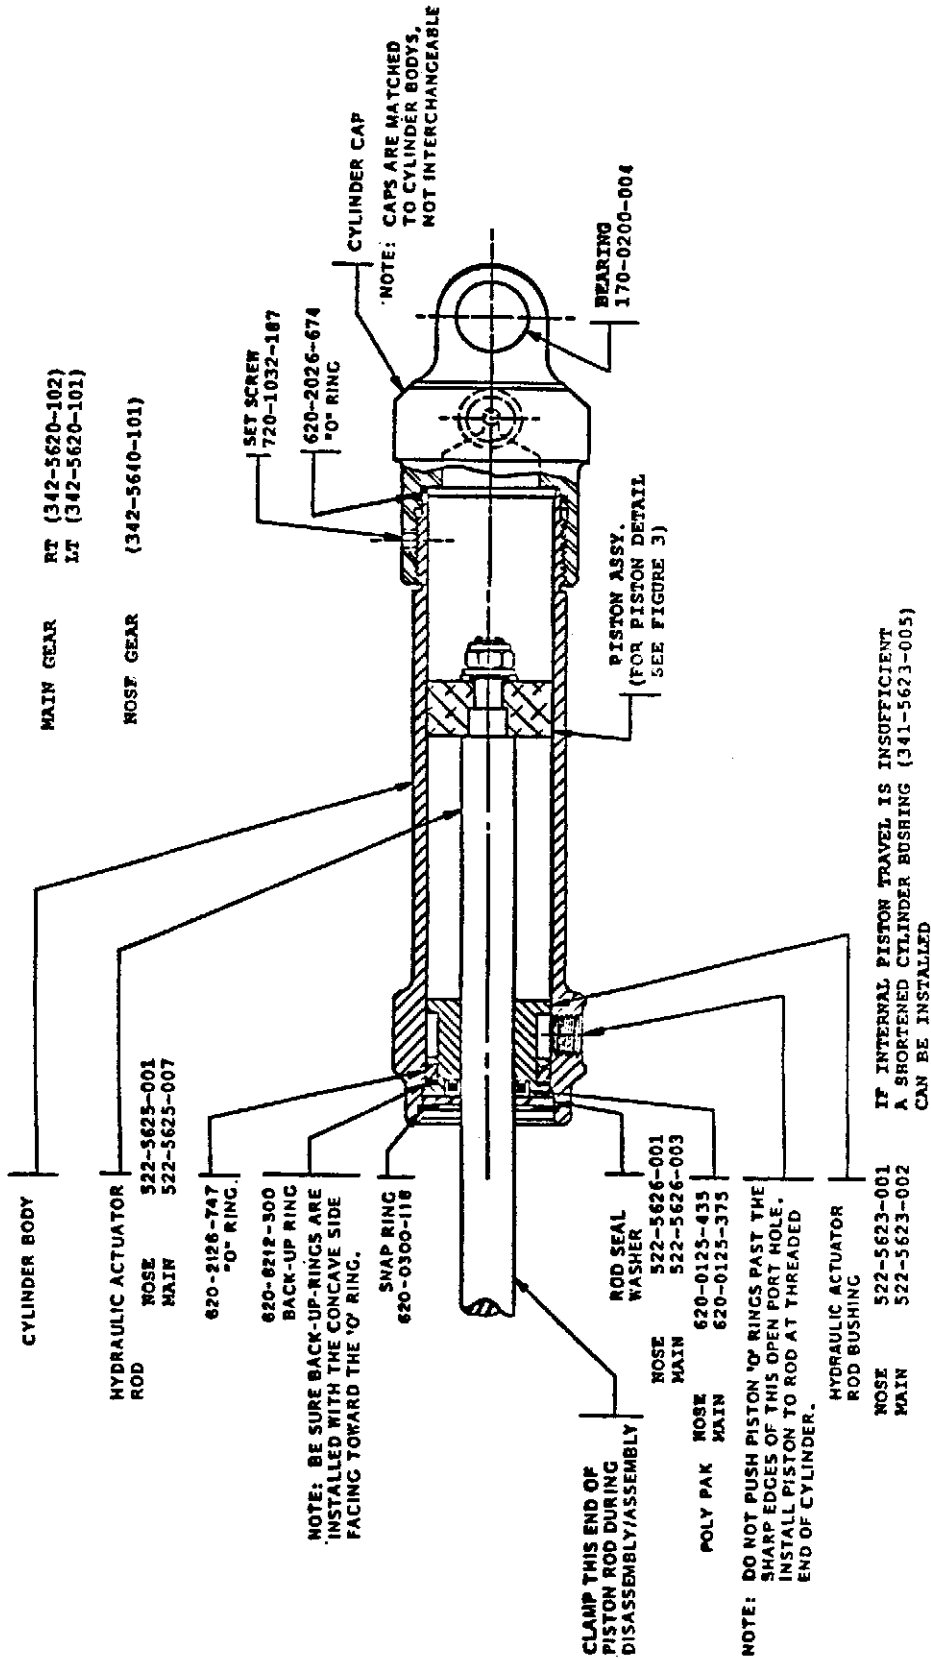
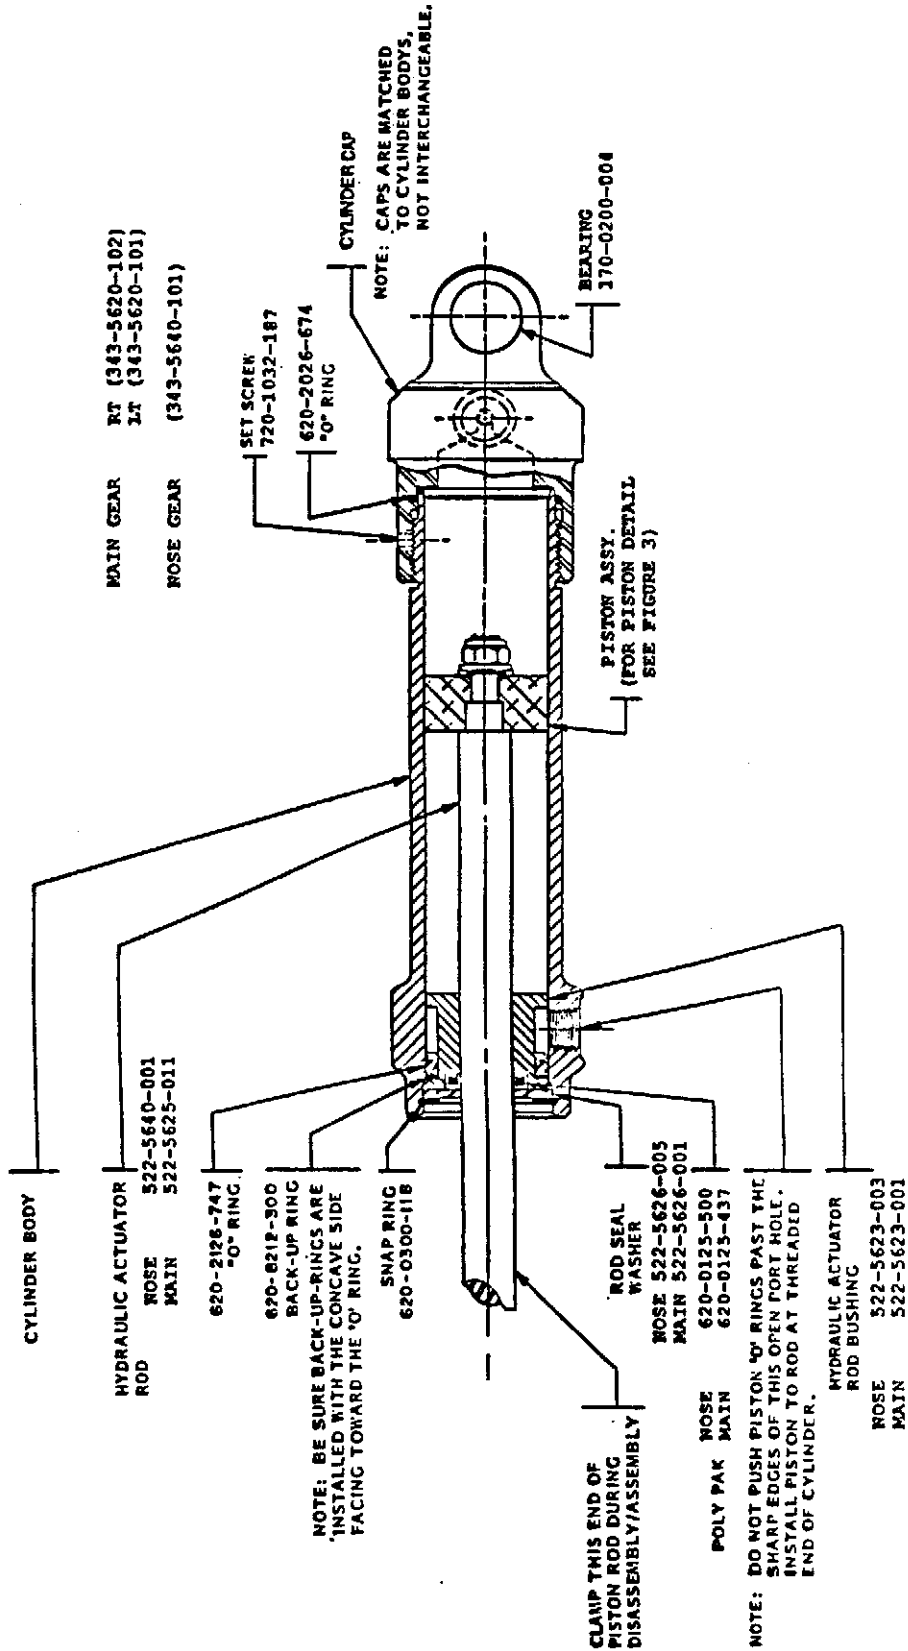

Figure 1: Glasair I, II, II-S and Super II-S Landing Gear Hydraulic Actuator
Figure 2: Glasair III Landing Gear Hydraulic Actuator
For simplicity, these instructions have been written to describe a generic actuator unit using only the name of the part. Cut-away actuator illustrations (see Figures 1, 2 and 3) have been supplied to give the specific part numbers for the components of various hydraulic actuators supplied with Glasair kits. To find the correct seal for use in a specific location on your aircraft, simply refer to the correct illustration for your type of kit: Figure 1 for Glasair I, II, II-S and Super II-S, or Figure 2 for Glasair III.
**A)** Install the new back-up ring (P/N 620-8212-300) and "O" ring (P/N 620-2126-747) onto the cylinder bushing, as shown in Figures 1 and 2. Install the back-up ring on the outboard side of the bushing (the side closest to the snap ring), as shown.